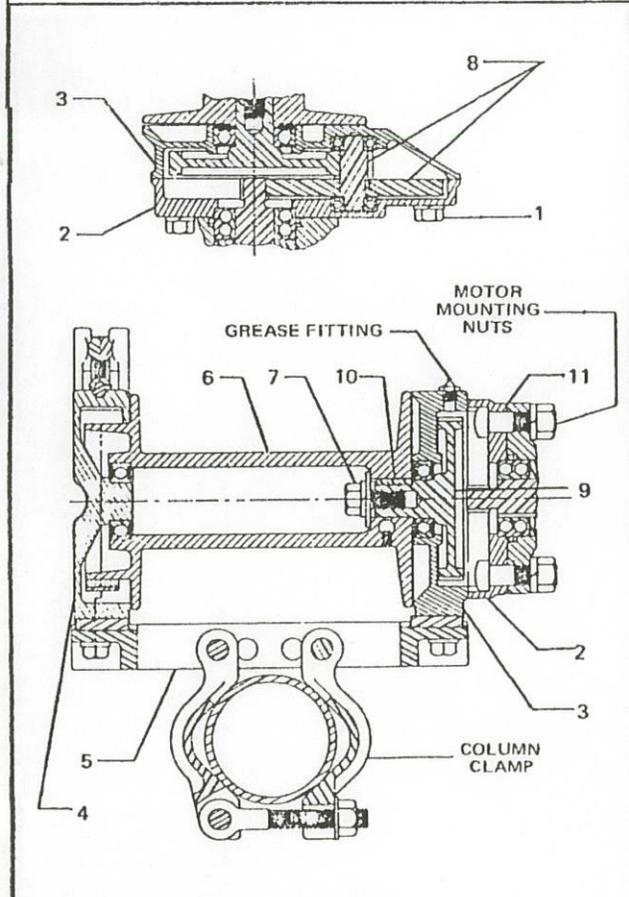

FIG. 2 WINCH SECTIONAL VIEW
Gear Housing. The gear housing is serviced at the factory with grease and, based on intermittent service, requires regreasing only at normal overhaul periods. If it becomes necessary to add grease before overhaul, add grease through the pressure grease fitting (see Fig. 2). Do not overgrease; this will cause leakage of grease around the drum flange. Use a high temperature bearing grease, specifications as follows:
Disassembling Hoist Unit. (See Fig. 2) Remove the six capscrews (1) holding the end bracket cover (2) to the R.H. end bracket (3). Carefully pull the cover straight off. Avoid hammering on this cast iron cover. Next, remove the four capscrews which hold the L.H. support (4) to the frame (5). Lightly tap the support (4) and brake assembly away from the drum (6). The brake must be released. Remove the large capscrew (7) and washers inside the drum (6). Remove gears as follows: Pry off the intermediate gear and pinion assembly (8). Replace the large capscrew (7) - minus washers - in the end of the main gear (9). The screw will act as a thread protector and the main gear can be driven out of the R.H. end bracket (3) by using a long drift through the drum bore and applying force on the screw head. Avoid striking the key (10).